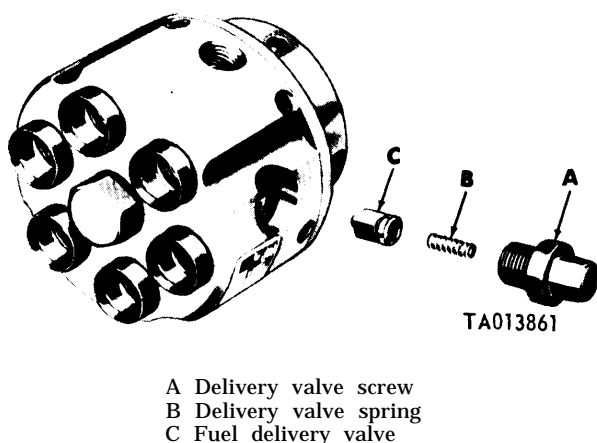

Figure 3-166. Installing fuel delivery valve and screw.
b. Remove delivery valve screw (A, fig. 3-166) and delivery valve spring (B). Reinstall delivery valve screw.
f. Install the timing device cover using a new gasket, and tighten the retaining bolts and lock-washers fingertight. Install timing window cover or fuel shutoff housing. Remove U-tube from hydraulic head (fig. 3-164). Remove delivery valve screw (A, fig. 3-166). Remove fuel delivery valve (C), and
c. If the reading is not within specification, remove the delivery valve and inspect the spring, valve, and seat for foreign matter or damaged parts (fig. 3-166). If spring is defective, replace spring. If valve or seat is defective, replace the hydraulic head assembly.